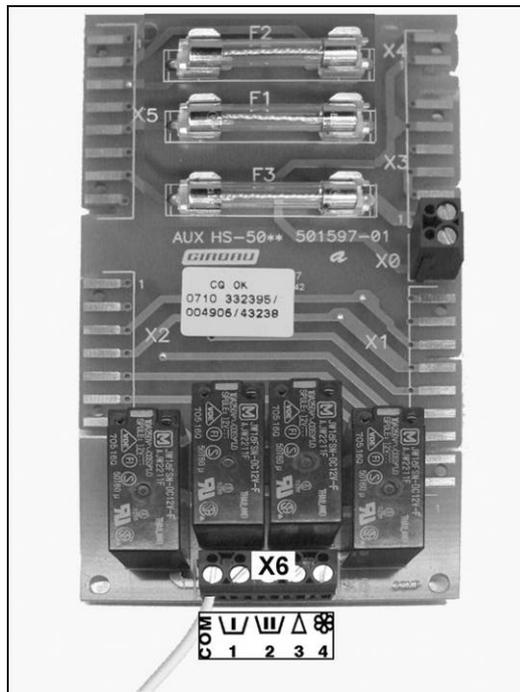

Fig. 3.15
**External dosing equipment connection** (Fig. 3.15)